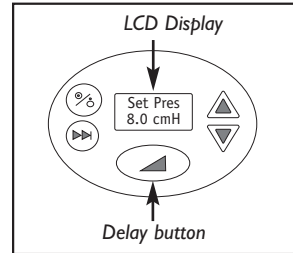

Figure 8
4. Press the Delay button (**Figure 8**) to start the pressure delay cycle if prescribed. Pressure will decrease to the Delay Pressure setting and return to the prescribed Set Pressure after the Delay Time has expired.
4. Press the Delay button to start the pressure delay cycle, if prescribed. Pressure will decrease to the Delay Pressure setting and return to the prescribed Set pressure after the Delay Time has expired (**Figure 8**).